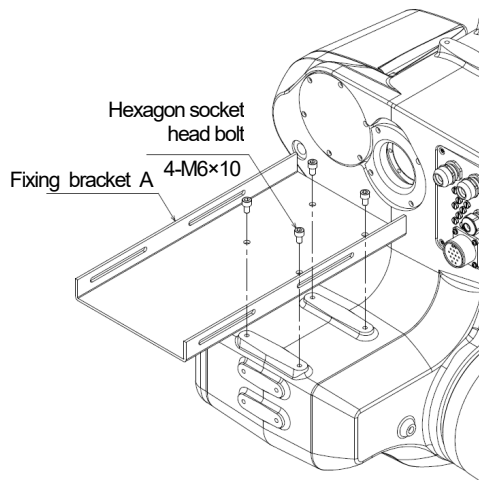

Figure 1.4 Mounting of fixing bracket (Procedure 1)
1. Referring to Figure 1.4, mount the fixing bracket onto the posterior part of JT3 of arm using four hexagon socket head bolts (M6×10).